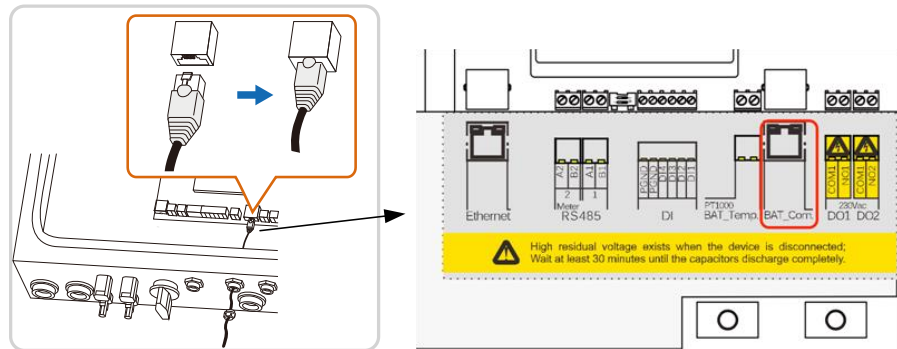

Figure 4 BAT_Com. Port
Step 4: Insert the RJ45 plug into the BAT_Com port (Figure 4) on the configuration circuit board until it makes a clicking sound, then plug the other side into the communication port of the GCL battery.